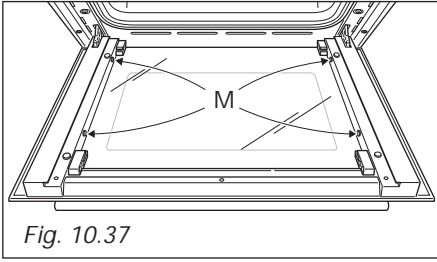

Fig. 10.37
- Check that the four rubber pads are in place (M in fig. 10.37).